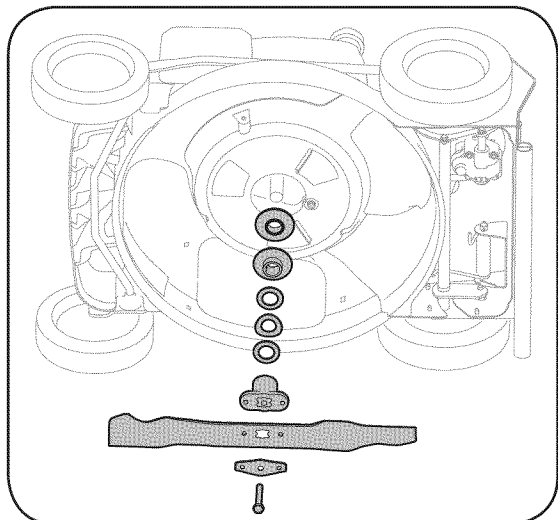

Figure 5-3: To access blade, remove the bolt, support, blade, and adapter.
2. Remove bolt, bell blade support, blade, and blade adapter from the engine crankshaft, Figure 5-3. **When removing these items, the pulleys and washers may also break free from the crankshaft. Be sure to make note of the orientation of these items for reassembly.**